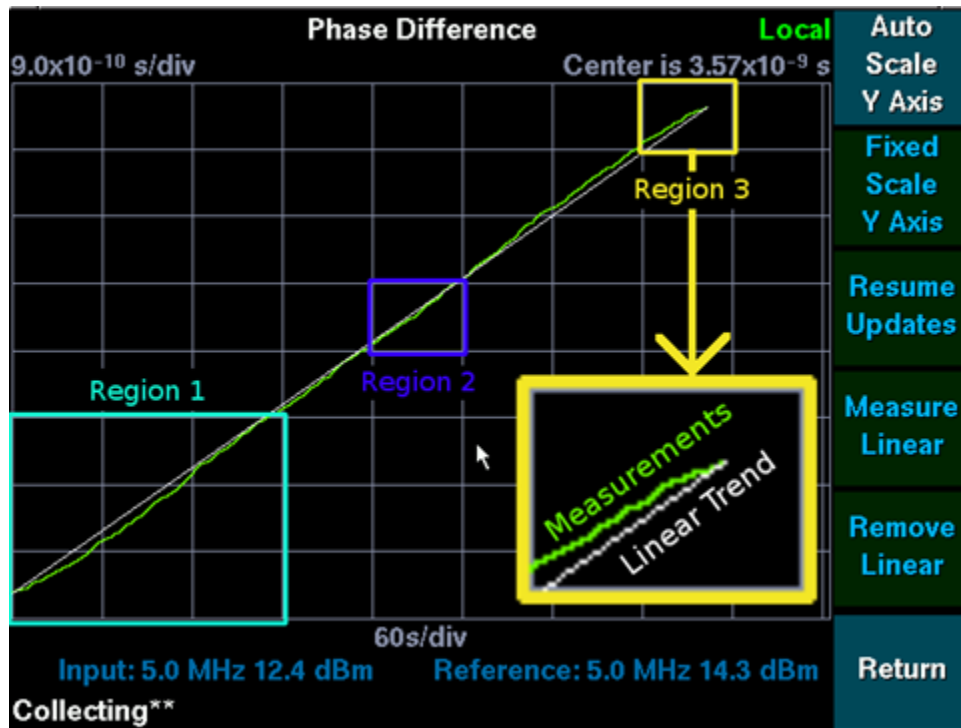
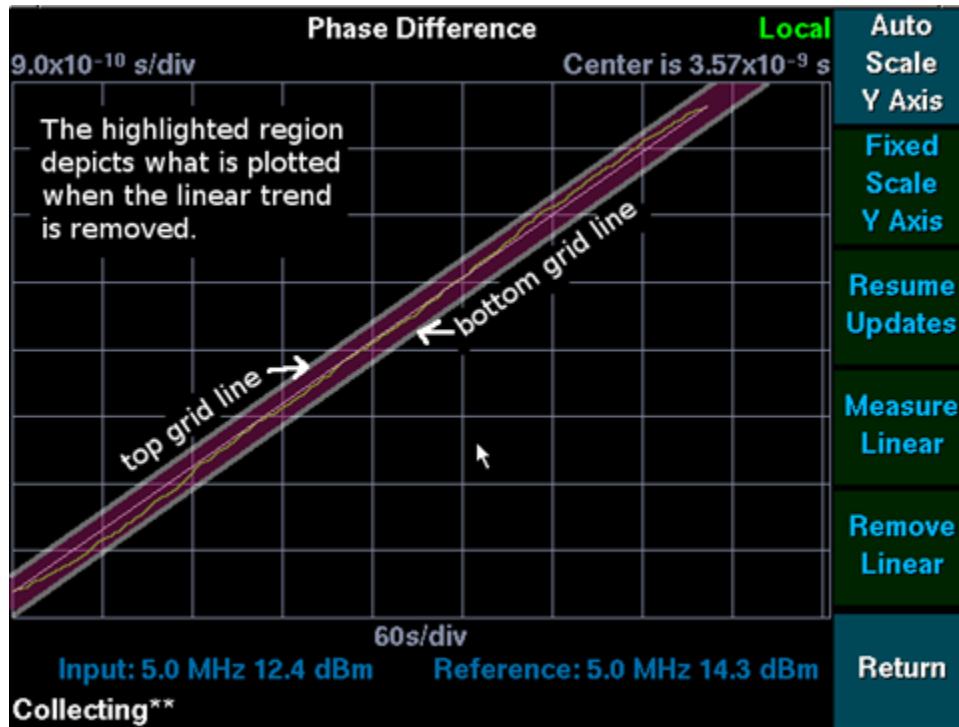

Figure 13: Linear Trend in Phase Difference Measurements
Figure 15: Conceptual Representation of Figure 14 Linear Trend Removed in terms of Figure 13 Linear Trend in Phase Difference Measurements.
Consider the phase difference measurements plotted in Figure 13 Linear Trend in Phase Difference Measurements. Over time they exhibit the trend discussed thus far. The white line segment shows this trend, as it is measured by the **Measure Linear** softkey. The slope of this line segment (from the first to the last available measurement) is taken into consideration when the trend is measured.
Make the following observations about Figure 13 Linear Trend in Phase Difference Measurements:
Once the trend has been measured, it can be removed from the plotted measurements, by pressing the **Remove Linear** softkey shown in Figure 13 Linear Trend in Phase Difference Measurements. Removing the linear trend from this data set results in the display shown in Figure 14 Linear Trend Removed:
Compare each of the rectangular regions with its counter part in Figure 13 Linear Trend in Phase Difference Measurements.
- Trend line intersections which were barely noticeable in Figure 13 Linear Trend in Phase Difference Measurements can readily be seen.
The **Remove Linear** softkey has changed to **Don't Remove Linear**. Pressing it at this time will stop removing the trend from the data and display data set as seen in Figure 13 Linear Trend in Phase Difference Measurements.
Pressing the **Remove Linear** softkey essentially plots the phase difference measurements' distance from the trend last measured by the **Measure Linear** softkey. The top and bottom most grid lines in Figure 14 Linear Trend Removed are parallel to the linear trend line segment in Figure 13 Linear Trend in Phase Difference Measurements, as depicted in Figure 15 Conceptual
Representation of Figure 14 Linear Trend Removed in terms of Figure 13 Linear Trend in Phase Difference Measurements.: